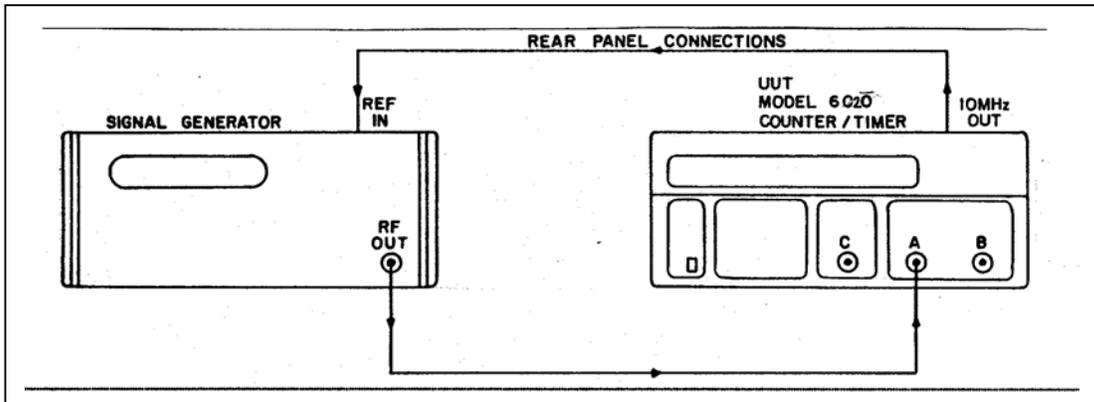

Figure 5-7. Period A and Period A Averaged Test Set-up.
1. Connect the test equipment as described in Figure 5-7.